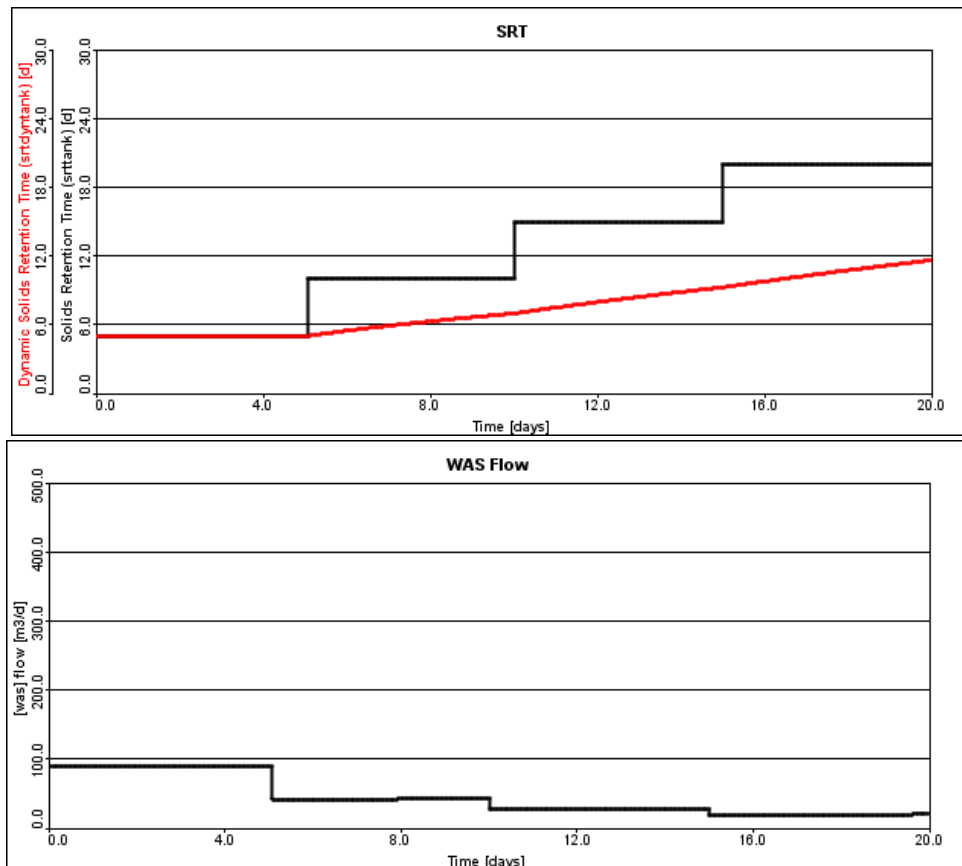

Figure 8-16 – SRT and WAS Flow Output Graph
49. **Try running simulations at various SRT point values** to observe required WAS flowrate to achieve the desired SRT. An example is shown below in **Figure 8-16**. Note that your output will look different depending on how the SRT set point controller is adjusted during the simulation.